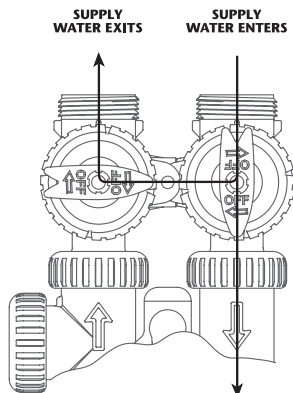

Figure 3
3. **Diagnostic Position:** The inlet handle points toward the control valve and the outlet handle points to the center of bypass valve. Untreated supply water is allowed to flow to the system and to the building, while not allowing water to exit from the system to the building (**Fig. 3**). This allows the service technician to draw brine and perform other tests without the test water going to the building.
- 2b. Unplug the transformer so that the valve will not cycle to the next position. Open the inlet handle of the bypass valve **very slightly** allowing water to fill the tank **slowly** in order to expel air. Once air is expelled and water is running at drain, open inlet to control and place into the diagnostic mode (**Fig. 3 on page 2**).